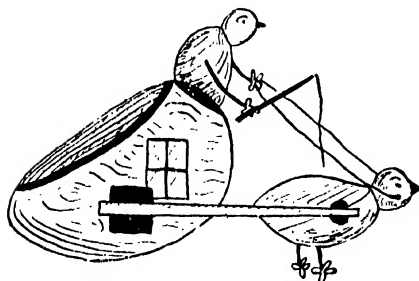

Fig. 253.—Eggshell Pin-cushion Ornament.
**Pin-cushion Ornament.**—A pin-cushion ornament is shown by Fig. 253. Take a